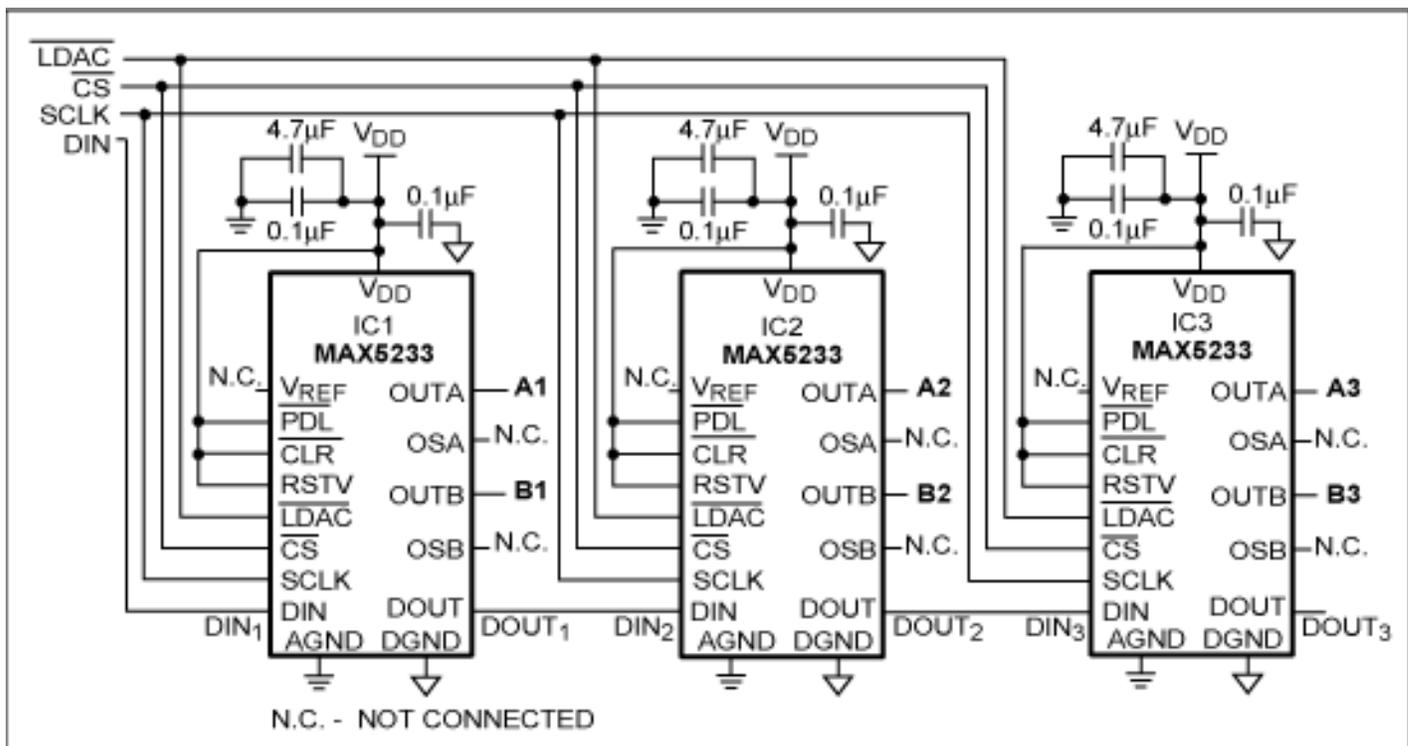

Figure 3. Daisy-chain circuit #1.
**Figure 3** shows three MAX5233 ICs connected in a daisy-chain configuration. The MAX5233 is a dual, 10-bit DAC (contains two DAC channels, A and B). With RSTV connected to  $V_{DD}$ , the analog outputs power up to midscale.